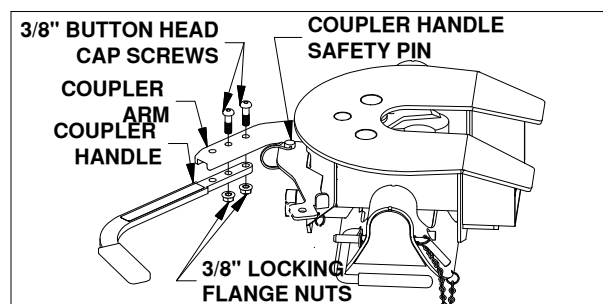

Figure E1: View looking down at side of coupler.
- Open coupler.** Locate the two 3/8" x 1-1/4" button head cap screws and the two 3/8" flanged lock nuts provided in a bolt bag. Pull out the coupler arm and pin it with the safety locking pin near the base of the arm, as shown in Figure E1.
- Secure handle.** Using the button cap screws and the lock nuts, attach the coupler handle to the arm and tighten, see Figure E1. Pull out the coupler handle safety pin.